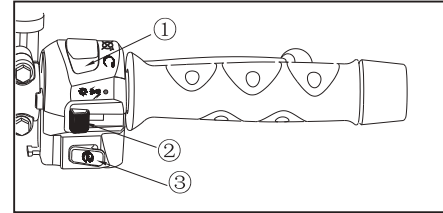

Figure 6 Right Handle Switch Set
(3) Right Handlebar Switch Set (Figure 6)
- ① Fire preset switch
- ② Illuminator and position lamp switch
- ③ Electric start-up button